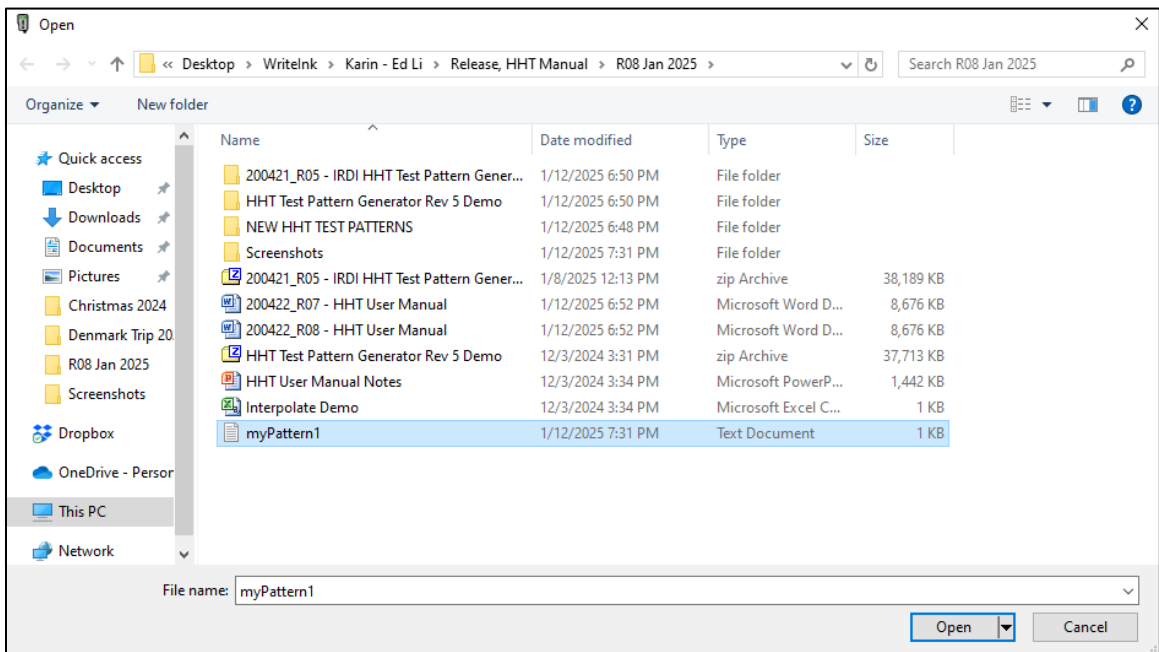

FIGURE 6-6 HHT TEST PATTERN GENERATOR SOFTWARE – SELECT A FILE TO OPEN
STEP 2	A browser window will appear. Browse to the directory containing the file, and click on the file to select it (e.g. “myPattern1” in Figure 6-6).